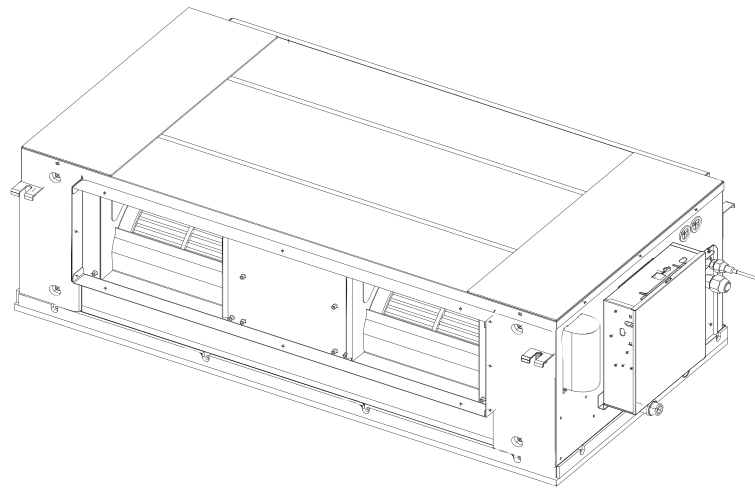

Fig.4-10
routine method of installation: the size of installation for indoor unit following the Fig.4--9 and Fig.4-10
1. The whole unit status show as Fig.4-10.